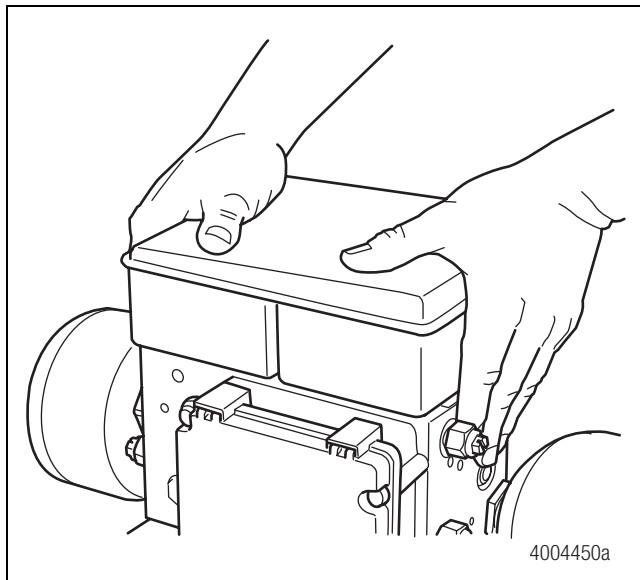

Figure 9
4. Install the new reservoir by pressing it carefully and completely into the grommets in the ports. Figure 9.